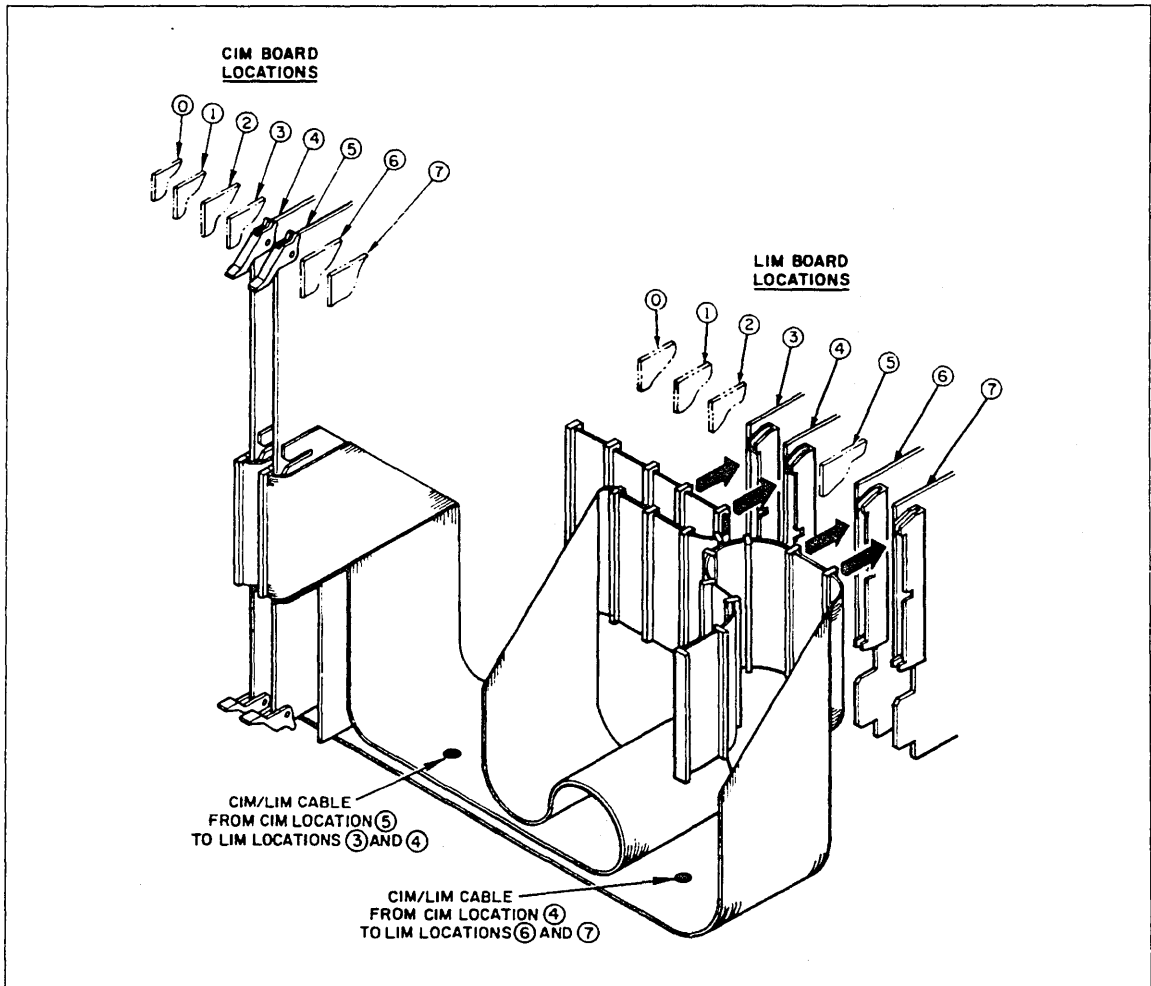

Figure 1-45. Installing Second CIM/LIM Cable
4. Position the cable from CIM 5 to the LIMs in slots 3 and 4. Fold the cable back so that the red stripe is on the bottom and the connector is facing the LIM receptacle. Plug connectors 3 and 4 into the LIMs, making sure they are fully seated. The end connector is 0. Fold the excess cable against the right side of the cabinet. Refer to figure 1-45.